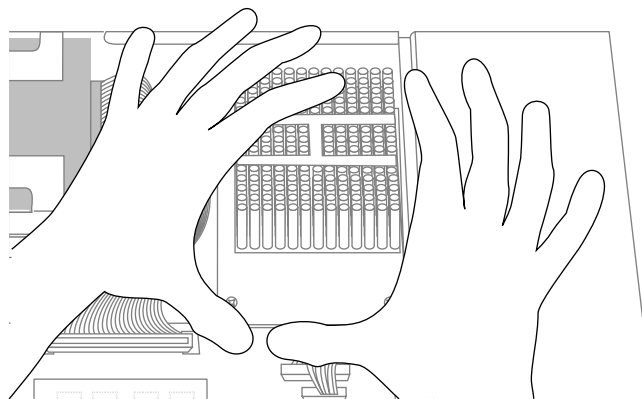

Figure 24 Disconnecting the CPU module
- Lift the board by bracing your hands against the power supply and the chassis and pushing the board up with your thumbs, as shown in Figure 24.